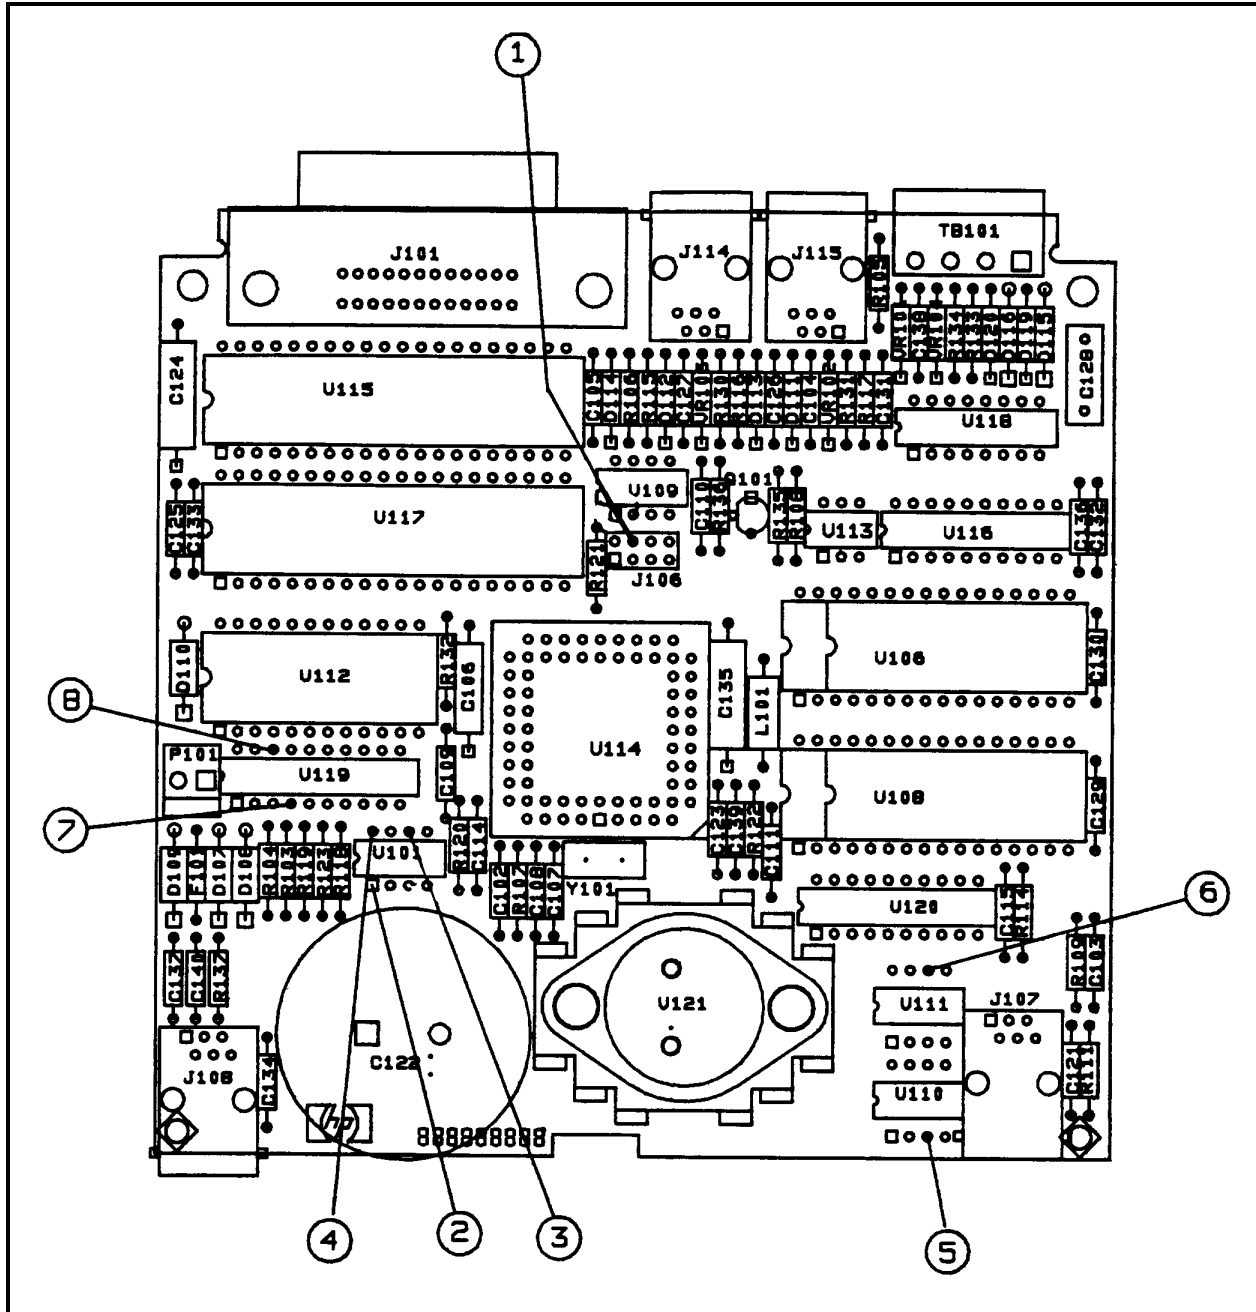

Figure A-1. A2 GPIB Component Parts List
- CHANGE** A2 GPIB board from P/N 5060-3591 to P/N 5060-3552. (see Table A-1 and Figure A-1)